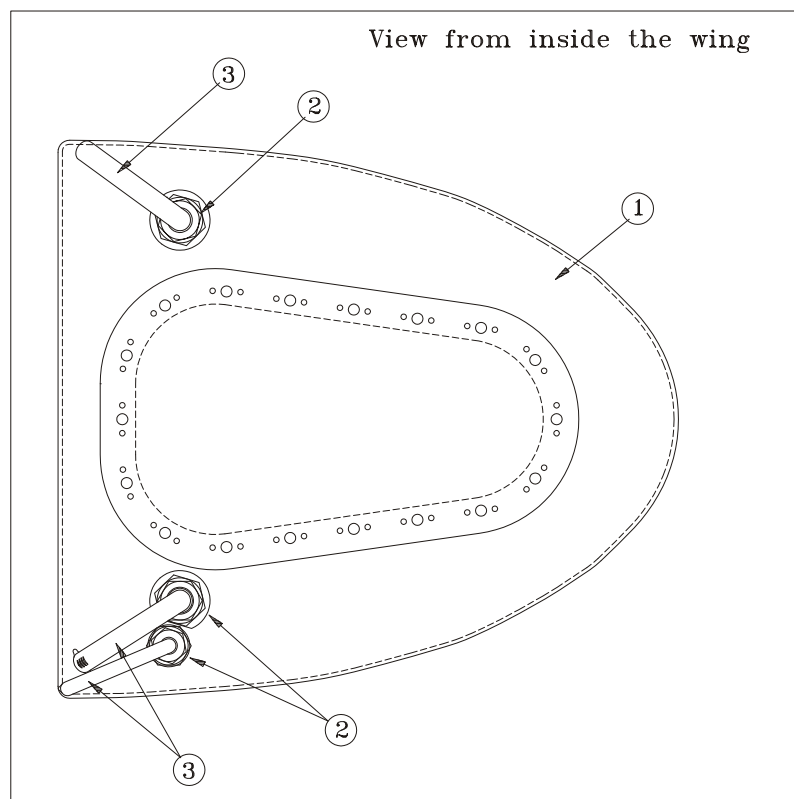

Figure 6 *Wing Tank Outlets Removal/Installation*
- 1 Remove the inspection door (1) (refer to Figure 6) per Chapter 28-10-04.
- 2 Remove the union nuts (2) and the elbow tubes (3).
- 5 Install in reverse sequence of removal after applying 3M Brand Fuel Resistant Coating 776 (3M, St. Paul, USA) to the sealing surfaces (fitting to tank root rib). Ensure that the outlet end positions are in the upper- resp. undermost edge of the wing tank (see Figure 6 below).